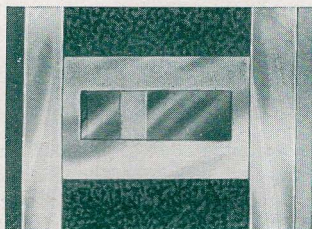

Fig. 10
disk (27), closely observing the progress of the film and the window for film-wind indicator (34). As soon as the film leader reaches the feeler device (36), the light signal in the window (34) will jump about 2 to 3 mm to the right (Fig. 10), whereupon the red dot of the winding disk (27) has to be wound only for about 5 mm more, with noticeable draught